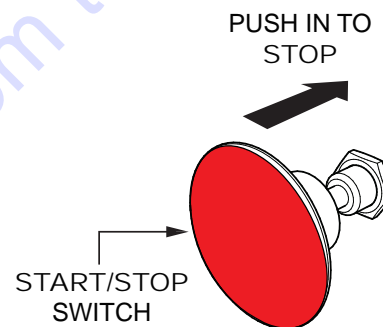

Figure 29. Start/Stop Button (Stop Position)
2. Push the engine **start/stop** switch (Figure 29) inward to stop the engine.